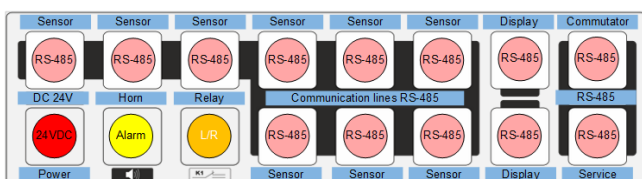

Figure 6. The MU-150 / MU-150E / MK-140 unit's connectors "RS-485" / "Sensor" for the DN-130(P) connection
The cable from the DN-130(P) is connected to any of the connectors of the MU-150 / MU-150E / MK-140 unit marked "RS-485" / "Sensor" (see Fig. 6).